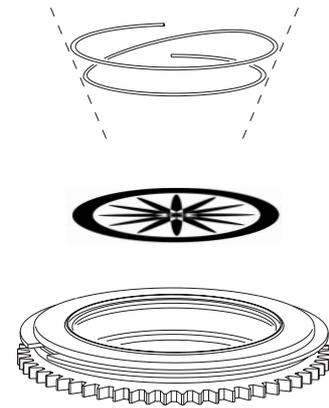

**Figure 10. Correct gobo orientation**
The orientations shown in Figure 10 are correct in most cases, but consult your Martin dealer or gobo supplier if you are in any doubt about the orientation of a specific gobo type.
4. Insert the new gobo in the holder with the side that faces towards the lamp facing upwards, towards the spring (see Figure 10 and Figure 11).
4. To insert a gobo, orient the gobo as shown in Figure 10 and place the edges under the retention spring. Verify that the gobo is centered in the opening.